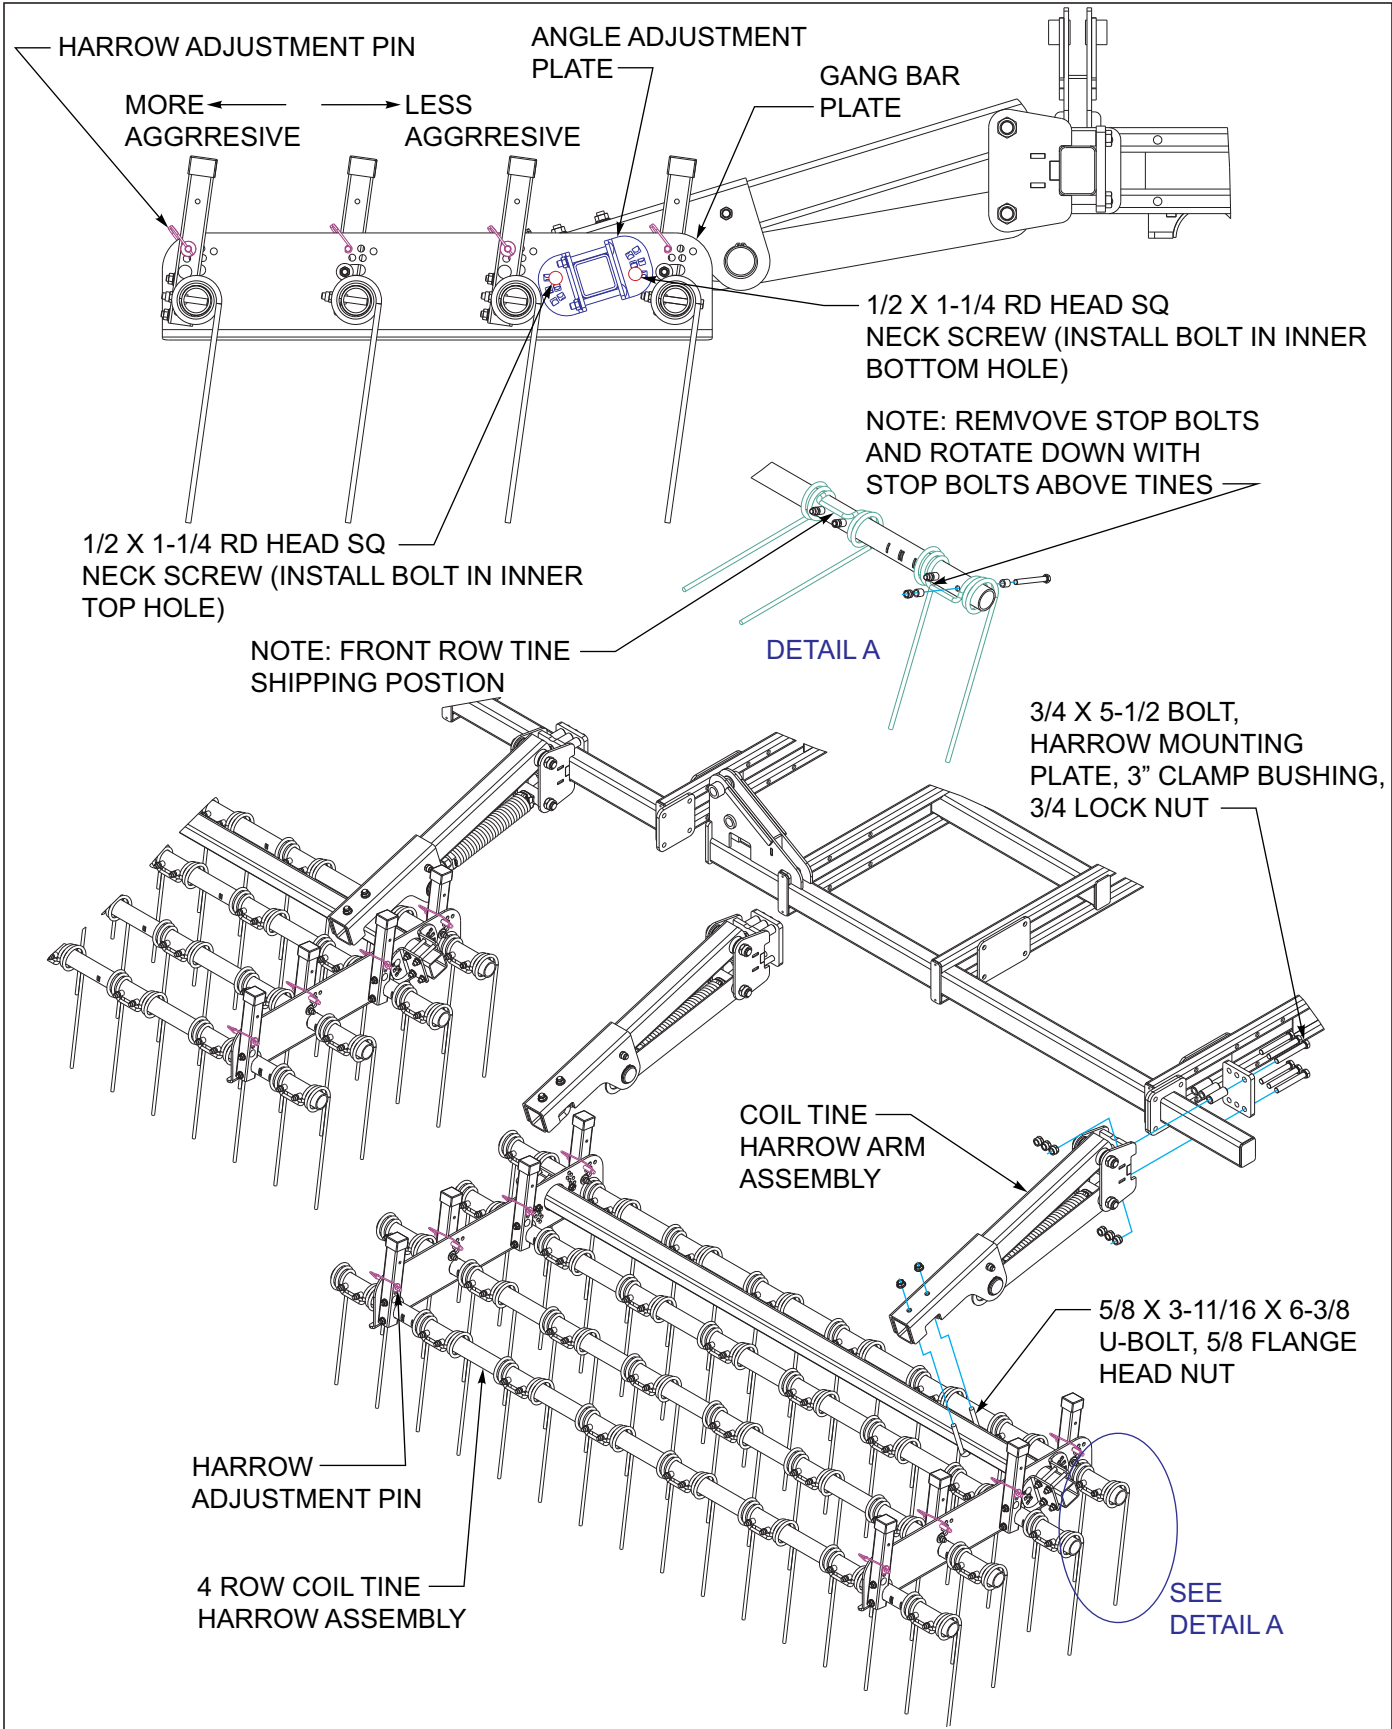

Figure 3-18: 4 Row Coil Tine Harrow Installation
1. Attach coil tine harrow arms to the rear of the field cultivator See Figure 3-18, according to placement dimensions. Clamp bushings are installed on the top mounting bolts.
3. Front row tines are assembled with the tines above the stop bolts to prevent damage when shipping See Figure 3-18 Detail A. Remove front tine bolts and reinstall, with stop bolts above tines.